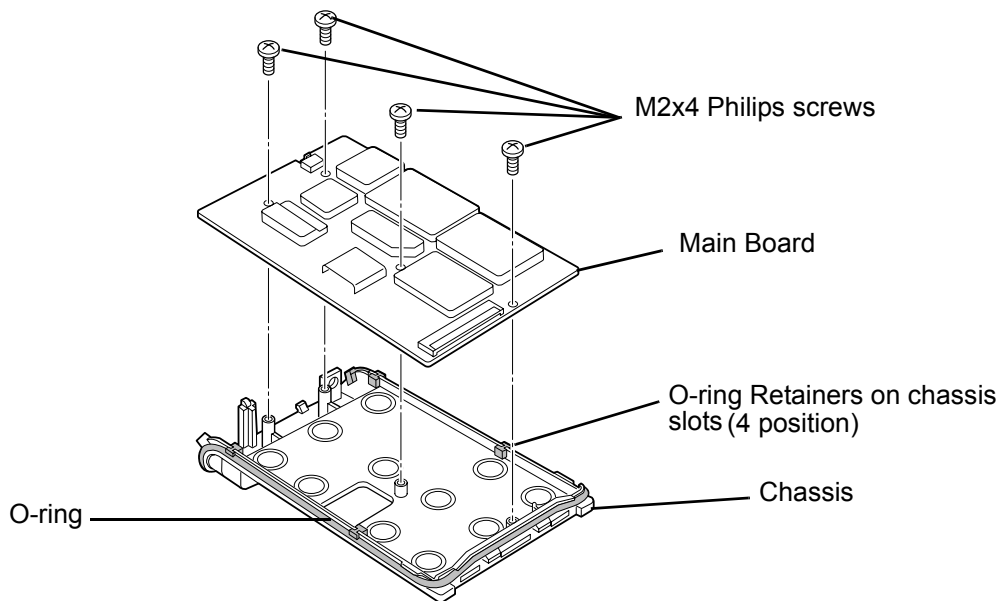

Figure 3-5 Remove Main Board from Chassis
1. Lift the main board from the chassis. (See Figure 3-5.)